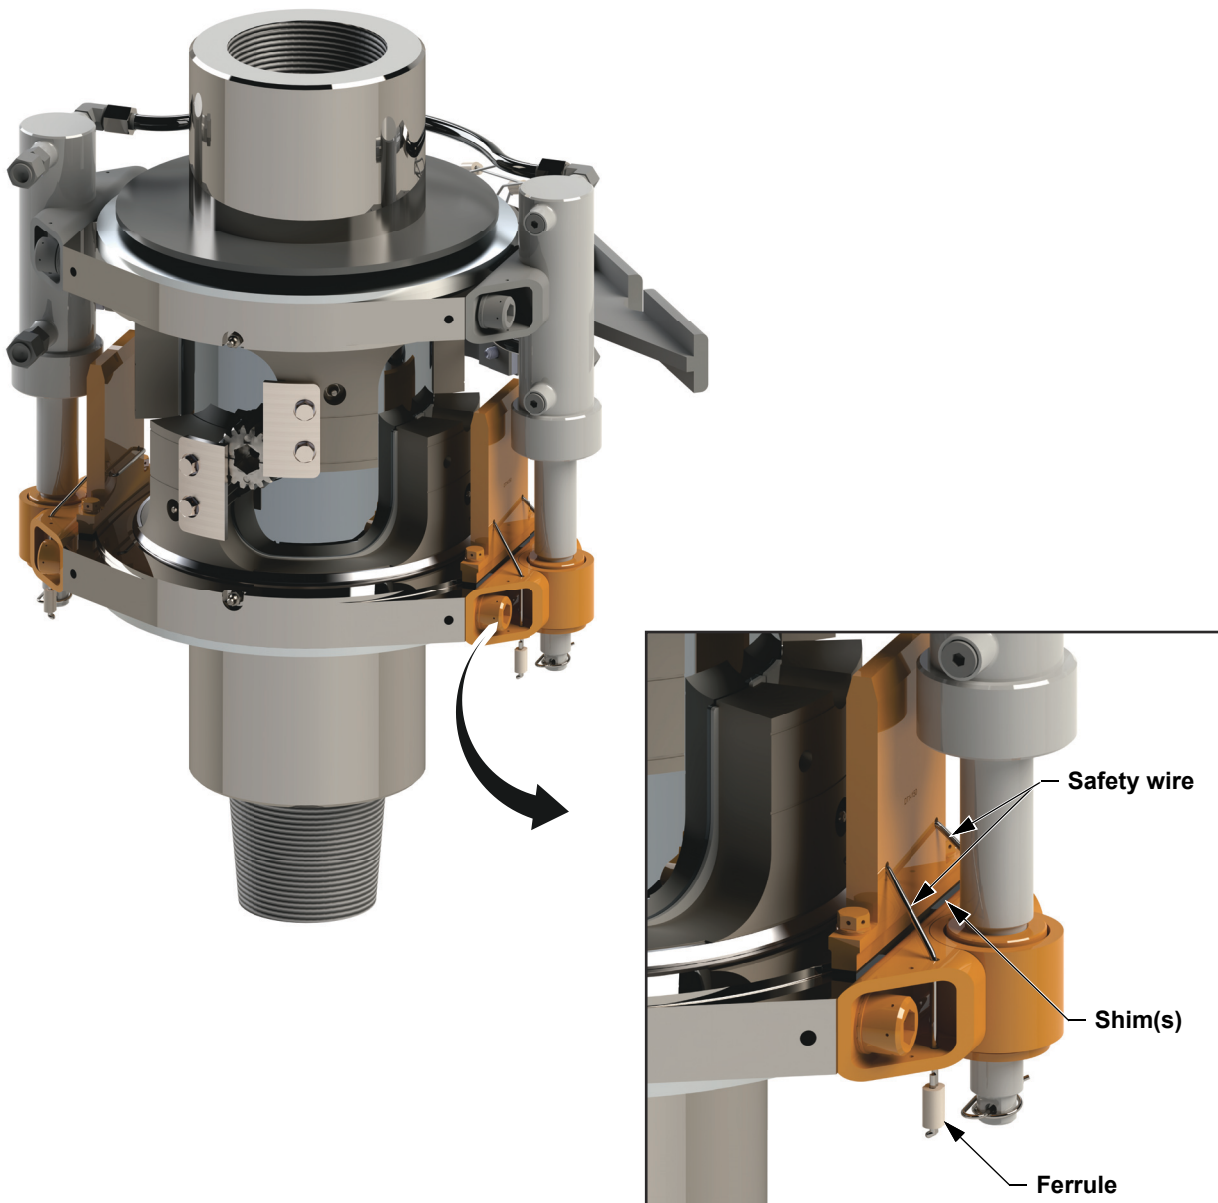

Figure 4: Safety wire routing
6. Route 1/8" safety wire (M10022) through the stop plates and cylinder mount and crimp with ferrules (M19-3009-010) as shown in Figure 4.